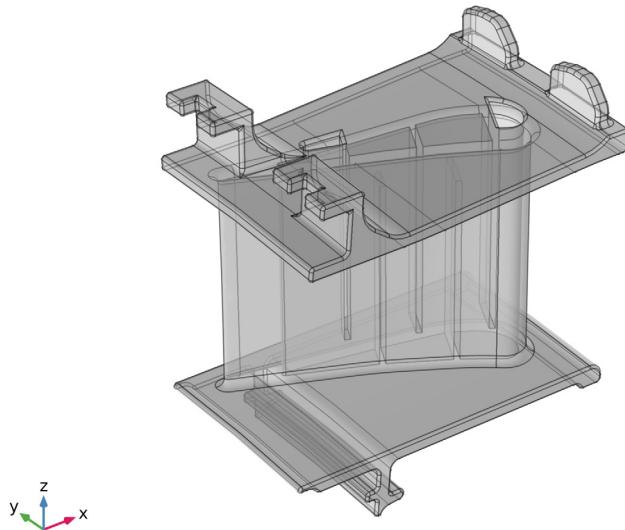

Figure 1: A stator blade with mounting details.
The model geometry is shown in Figure 1. The stator blade profile is a modified version of a design shown in Ref. 2. The model includes some generic mounting details as well as a generic internal cooling duct.
- The imported geometry should look as shown in the Figure 1.